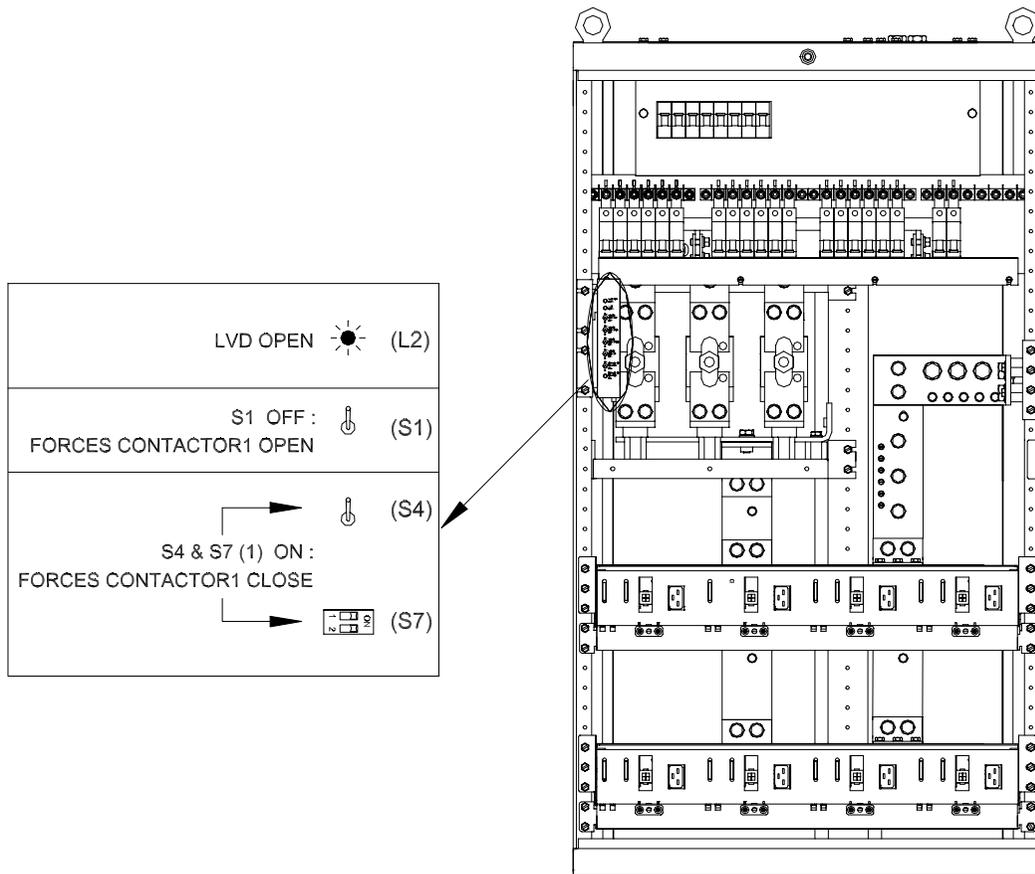

Figure 13-10: Low Voltage Load Disconnect Contactor Control Switches
- Low voltage load disconnect (see Figure 13-10)
The low voltage load disconnect (LVLVD) contactor control is available in the Alarm card (Refer Section 8 of the manual). The Alarm Card is mounted on the left side of the cabinet, as shown in Figure 13-10.